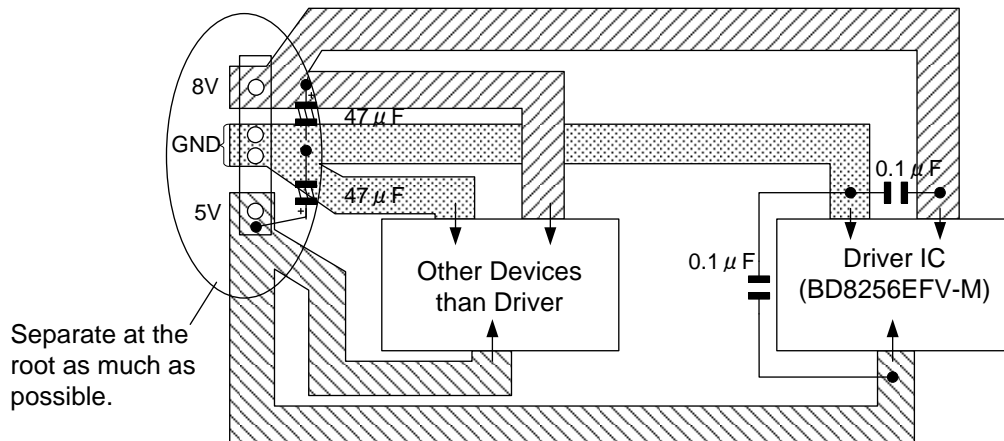

Figure 28. Pattern Example
- (1) Reduce impedance in wiring for the driver's 8 V power supply (SPRNF, SLRNF 1, SLRNF 2, VCC), 5V power supply (FCTRLNF, TKRNF) and power GND (SPGND, SLGND, ACTGND) lines where high current flows. Make sure that they be separated from power supply lines of other devices at the root so that they do not have common impedance. (Figure 28)